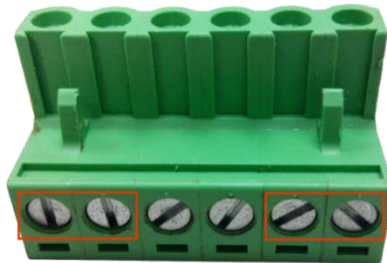

Figure 2.6: Power Terminal Block
- Step 2 Tighten the wire-clamp screws to prevent the wires from loosening, as shown below in Figure 2.6.